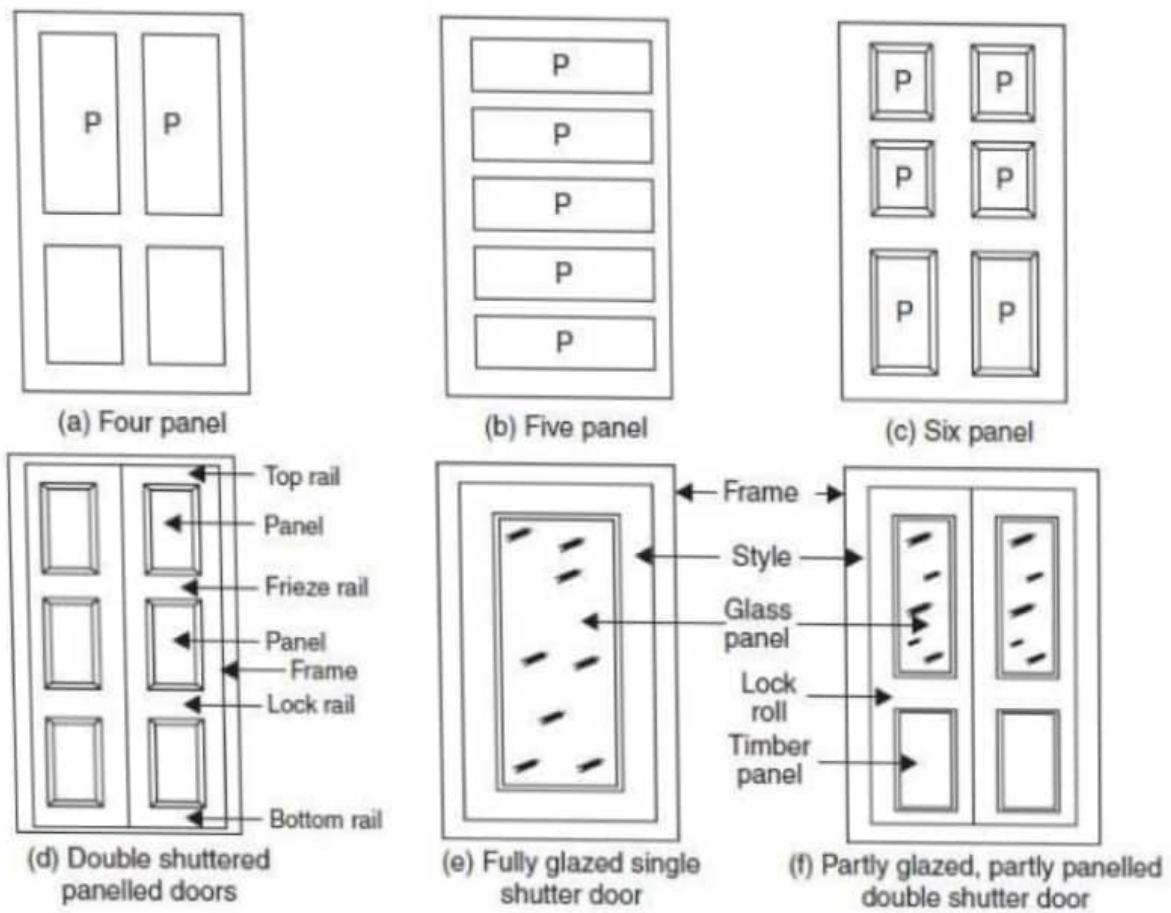

Fig. 8.23. Panelled and glazed doors
3. Framed and Panelled Doors: This type of door consists of vertical members, called styles and horizontal members called rails. The styles and rails are suitably grooved to receive panels. The panels may be of wood, A.C. sheet, glasses etc. The panels may be flat or of raised type to get good appearance. These are very commonly used doors. They may be of single shutter or of double shutter. Figure 8.23 show few types of panelled doors. If glass panels are used they may be called as glazed doors.